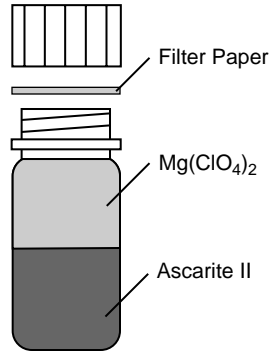

Figure 5-4. Fill the bottles with Ascarite II, followed by magnesium perchlorate.
2. Before removing the bottles, prepare the new bottles (in spares kit) by filling them with equal parts Ascarite II and magnesium perchlorate (Figure 5-4). Fill the bottles half full with Ascarite II first, followed by the magnesium perchlorate. Place a filter paper disk in the lid to keep the chemicals from spilling into the detector housing.